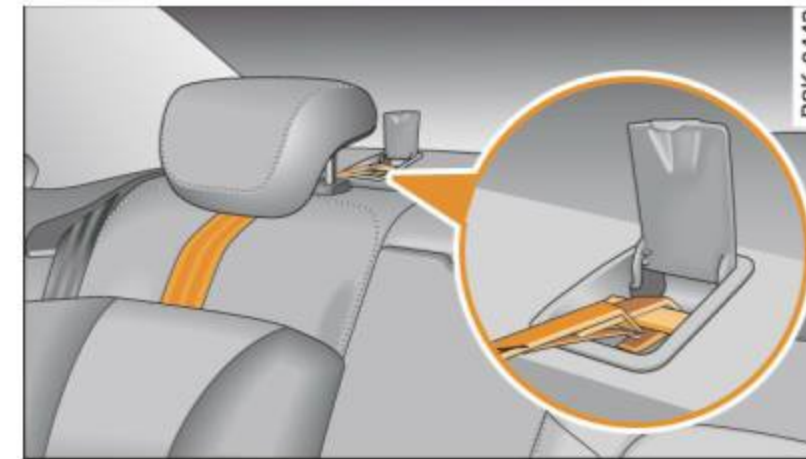

Fig. 193 Tether strap: proper routing and mounting
- Guide the upper tether strap **under** the rear head restraint ⇒ fig. 193 (raise the head restraint if necessary).